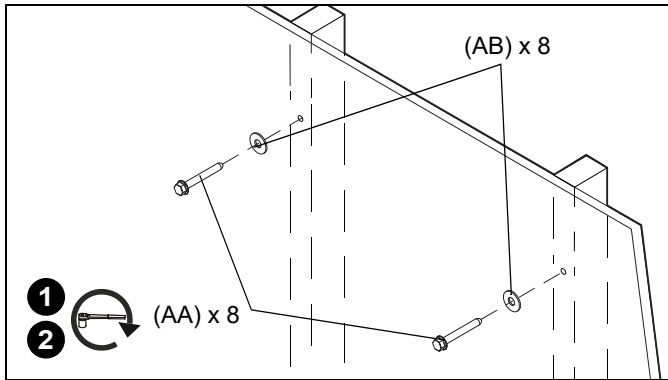

Figure 19
1. Use one 5/16" x 2-1/2" hex flange head lag bolt (AA) and one 5/16" washer (AB) through product and into pilot hole. (See Figure 19)